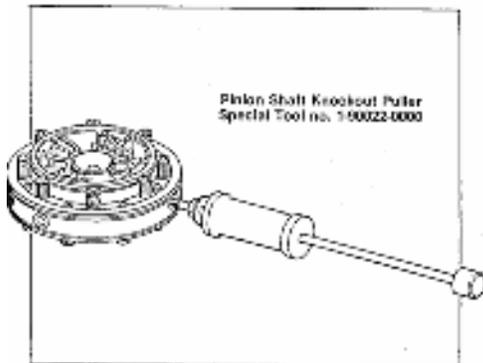

Figure 24. Removing Bevel Pinion Shaft with Puller.
7. Remove cap screws and locknuts securing pinion shafts in bevel gear carrier and remove bevel pinion shaft with puller. See fig. 24.